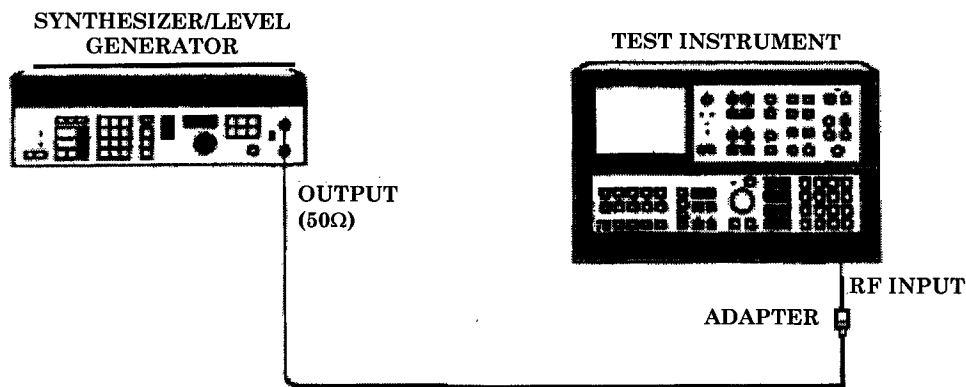

Figure 23. IF gain equipment set up
- (1) Press TI **2-22 GHz**.
- (2) Connect TI **CAL OUTPUT** to TI **RF INPUT**.
- (3) Press TI **RECALL, 8**.
- (4) Adjust TI **AMPTD CAL** control for a **MARKER** amplitude indication of  $-10.00 \pm 0.02$  dBm on the TI display.
- (5) Press TI **2-22 GHz** key.
- (6) Connect equipment as shown in fig. 23.